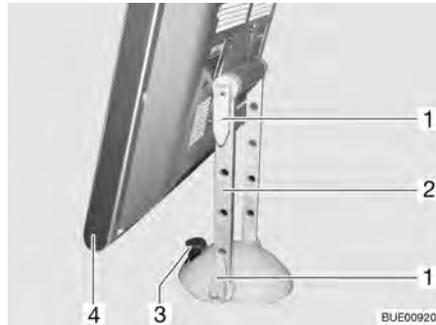

Fig. 52 Holder on the tray
- Pull the release knob (Fig. 52,3) upward and turn the flat screen (Fig. 52,4) with the holder (Fig. 52,2) to the desired position.
- Release the swivel lock. To do this, put the rocking lever (Fig. 52,1) in a horizontal position one after the other and swivel the flat screen to the desired position.
- Turn the flat screen until the release knob (Fig. 52,3) locks into place.
- If necessary, swivel the holder (Fig. 52,2) in the vertical position (Fig. 52).